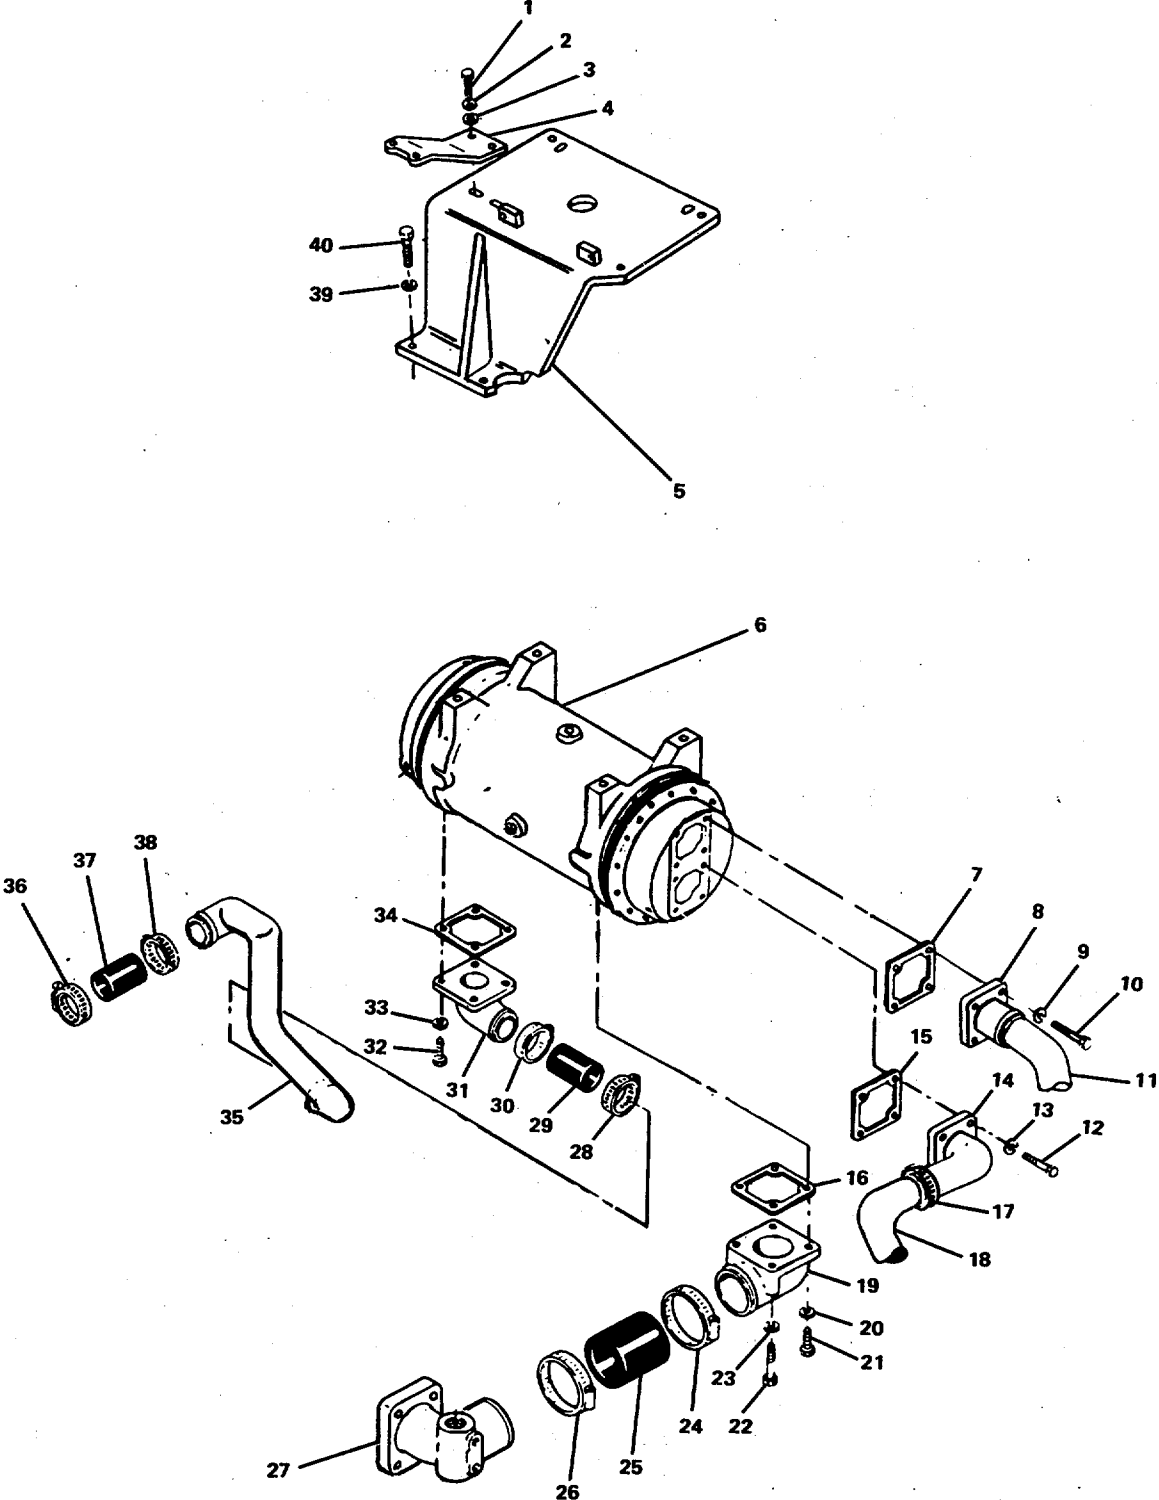

FIGURE 2-49. Heat Exchanger Group.
- b. Install drive belt (3) onto the pulley (4).
- c. Use a pry bar between the seawater pump (13) and engine to hold tension on drive belt (3).
- d. Tighten nuts (12) to secure pump (13) in position.
- e. Connect water inlet (15) and outlet tube (17). Secure with clamps (1).
- f. Tighten water pump mounting capscrews (9) and locknuts (12) to 35 ft-lb torque.
- g. Install mechanical guard (8) by installing capscrew (5), lockwasher (6) and nut (7).
**2-38. Replace/Repair Heat Exchanger and Heat Exchanger Group. (FIGURE 2-49)**